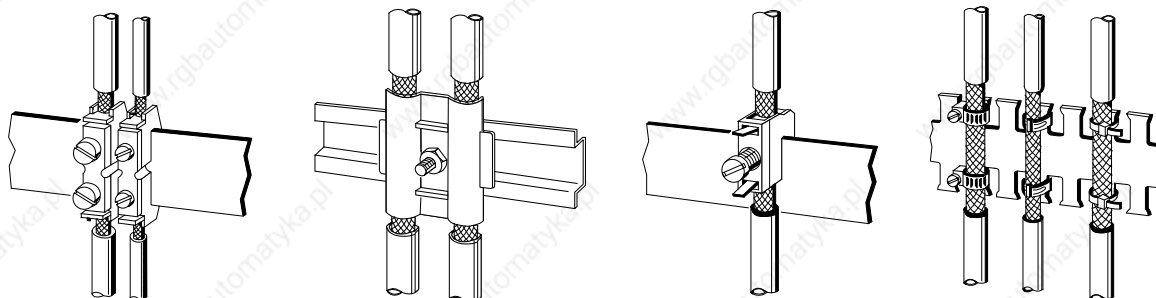

Figure 3-26. Fixing Shielded Cables with Various Types of Cable Clamps
- Use metal cable clamps for fixing the braided shield. The clamps have to enclose the shield over a large area and make good contact (see Figure 3-26).